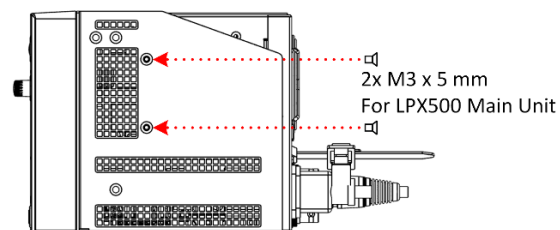

Figure 4: LPX500 Main Unit and Extended Monitor in Rack Tray
- 3 Insert two M3 x 5 screws into the two countersunk holes in the bottom of the tray, securing the unit to the tray. See Figure 4, Bottom View.
- 6 Insert the two M3 x 5 screws from Step 4 into the two countersunk holes in the bottom of the tray, securing the extended monitor to the tray. See Figure 4, Bottom View.
- 8 Insert one M3x5mm screw into the mesh spacer bracket from the underside of the rack tray to secure the bracket in place. See Figure 4, Bottom View.
- 10 Insert two M3 x 5 screws into the two countersunk holes in the right-hand side of the tray, securing the main unit to the side of the tray. See Figure 4, Right Side View.
- 11 Insert two M3 x 5 screws into the two countersunk holes in the left-hand side of the tray, securing the extended monitor to the side of the tray. See Figure 4, Left Side View.